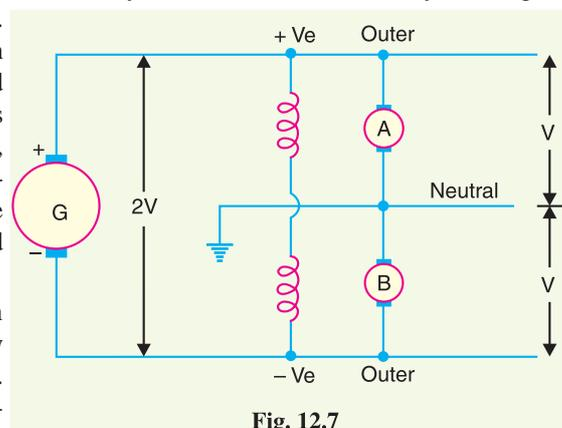

Fig. 12.7
- (iii) **Balancer set.** The 3-wire system can be obtained from 2-wire d.c. system by the use of balancer set as shown in Fig. 12.7.  $G$  is the main 2-wire d.c. gen-